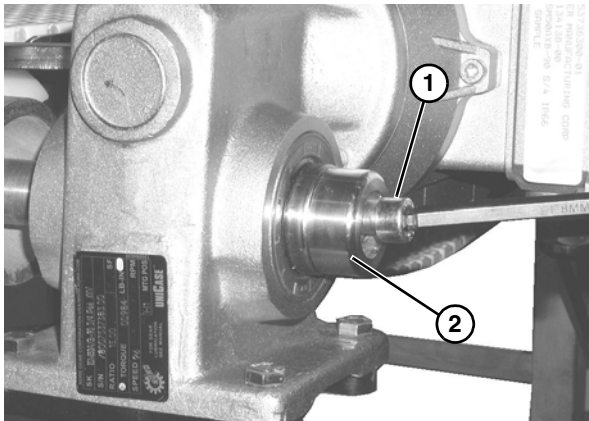

Figure 65
1. Remove the plastic cap on the end of the motor and remove the socket head screw (Figure 65, item 1) and the bore plug (Figure 65, item 2).